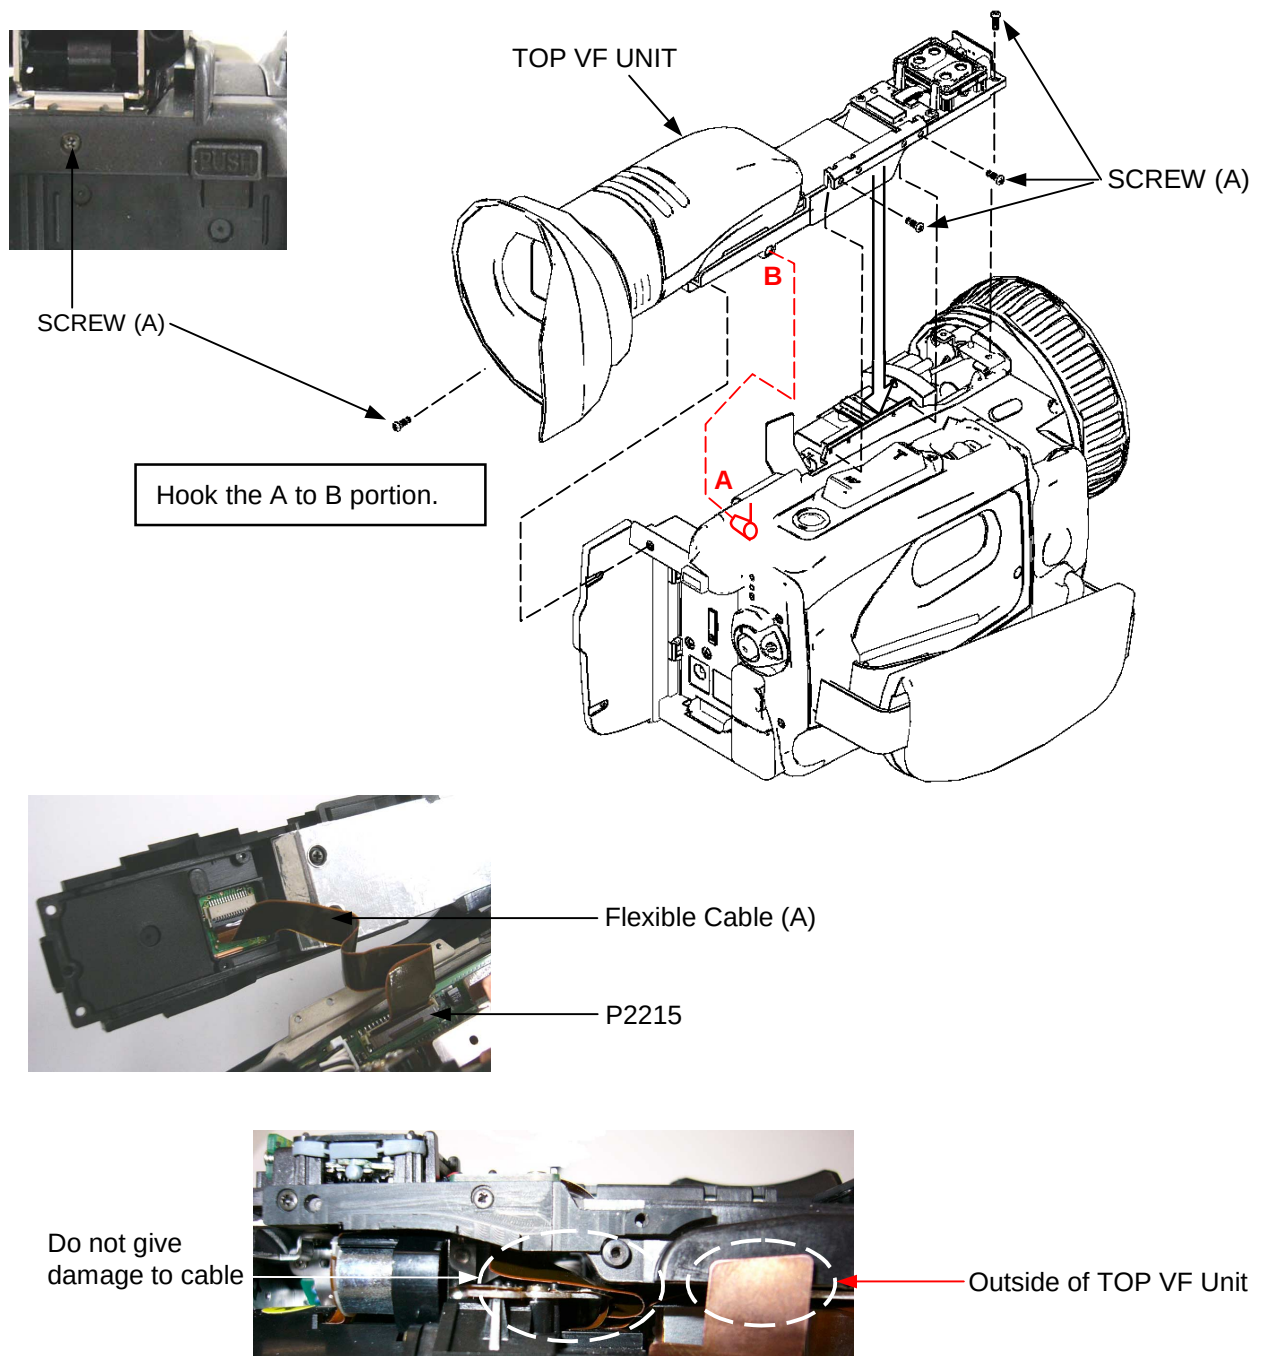

Figure 6-1
3. Unscrew the 4 screws (A) as shown in figure 6-1.
4. Lift up the TOP VF and disconnect a connector P2215 on VTR C.B.A., then remove the TOP VF Unit as shown in figure 6-1. Then be careful because the portion A and B are hooked together.
1. In case the flexible cable (A) is changed to new one, bend it to Z character as shown in figure 6-1.
2. The CCD Heat Sink is located to outside of TOP VF Unit as shown in figure 6-1.